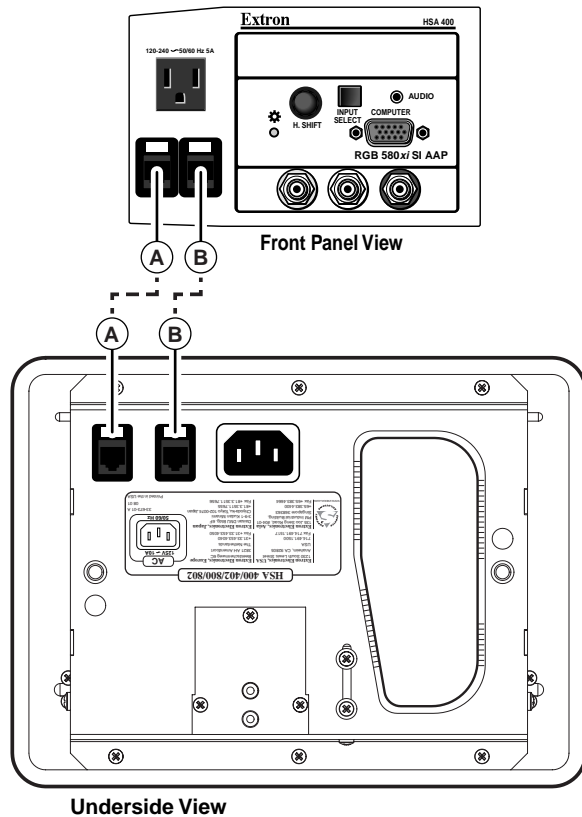
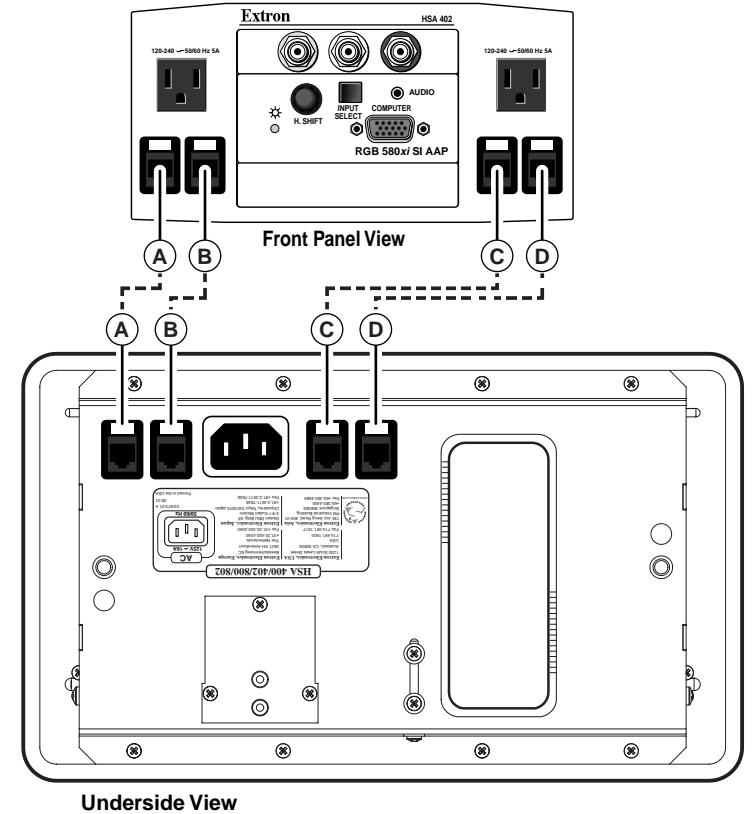

Figure 1-1 — HSA 400 underside and front panel bezel plug-ins
Figure 1-2 — HSA 402 underside and front panel bezel plug-ins
Figure 1-1 shows the location of the bezel plug-ins on the underside and front panel of the HSA 400. Figure 1-2 shows the location of the bezel plug-ins on the underside and front panel of the HSA 402. When replacing the CAT 6 cable, match the front panel connection (A) with the underside connector (A), match (B) with (B), and so forth.